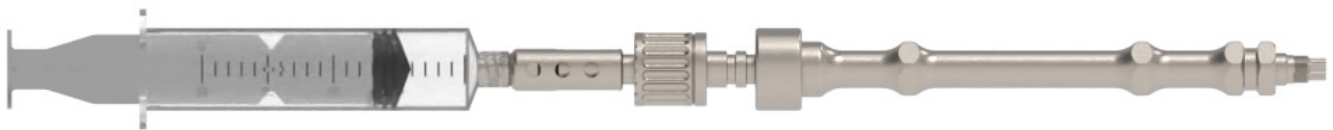

Figure 9.2
2. **Syringe-based flowable allograft:** Remove the Steinmann Pin and press on the provided Luer Lock Adapter to the proximal end of the HELIXX Inserter and attach syringe (Figure 9.2). Depress the Plunger to introduce the graft material down the cannula of the HELIXX Inserter. Remove the Syringe and tamp the material down the cannula of the HELIXX Inserter with the Plunger. The Plunger has been designed to extend past the tip of the HELIXX Inserter.